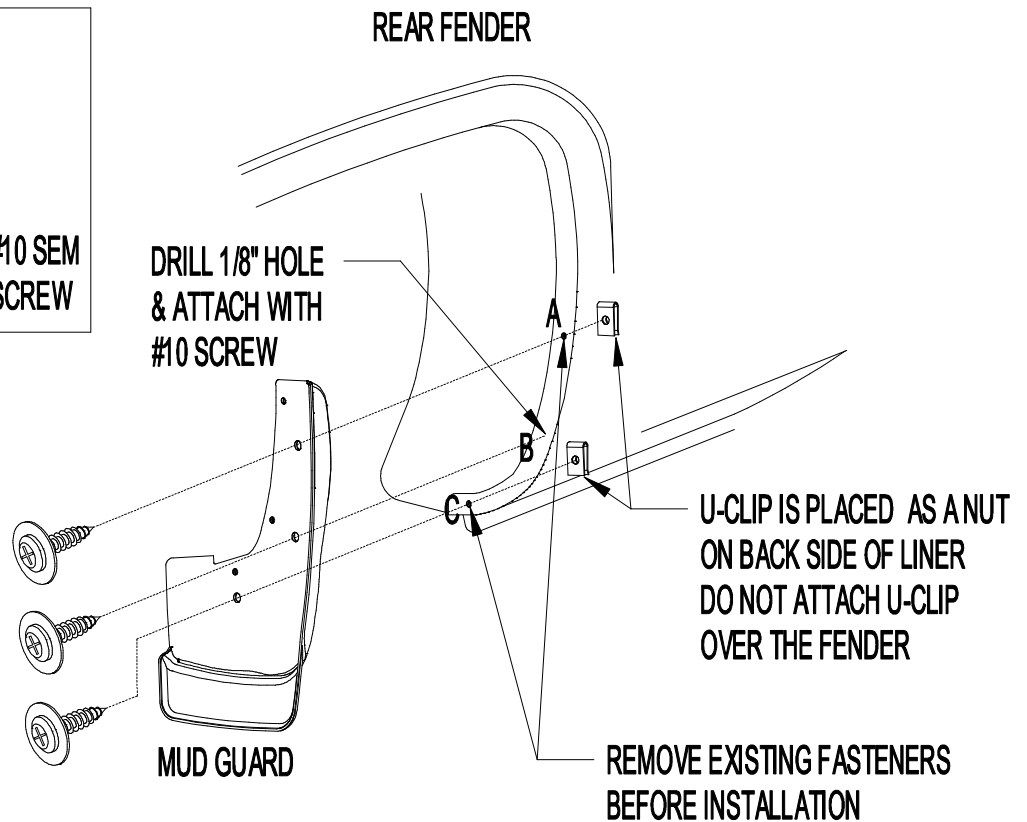

Figure 1
1. Remove existing fasteners from locations A and C (Figure 1).
2. Attach mud guard with a #10 screw through mud guard, fender, liner and into the U-Clip at location A and C (U-Clip is used as a nut and placed on the back of the liner) check fit and alignment before tightening (Figures 1 & 2).
3. Using mud guard as a template, center punch, drill 1/8" hole and install #10 screw at location B (Figure 1).